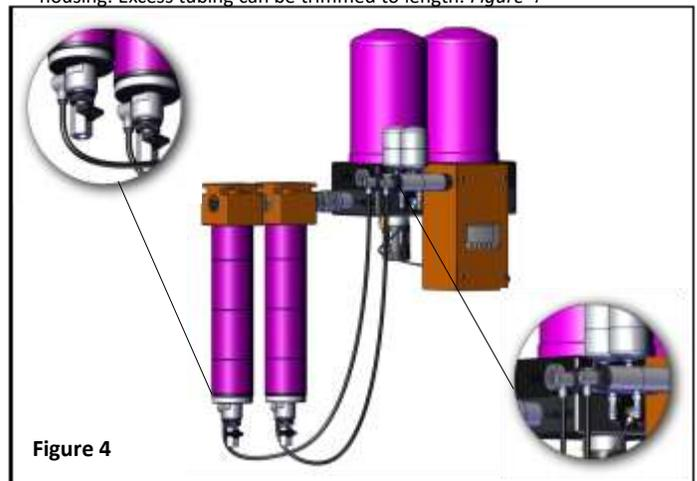

Figure 4
9. Use the provided 1/4" black nylon tubing to connect the Moisture Minder® Piston Drains to the strainers located on the bottom of each filter housing. Excess tubing can be trimmed to length. *Figure 4*